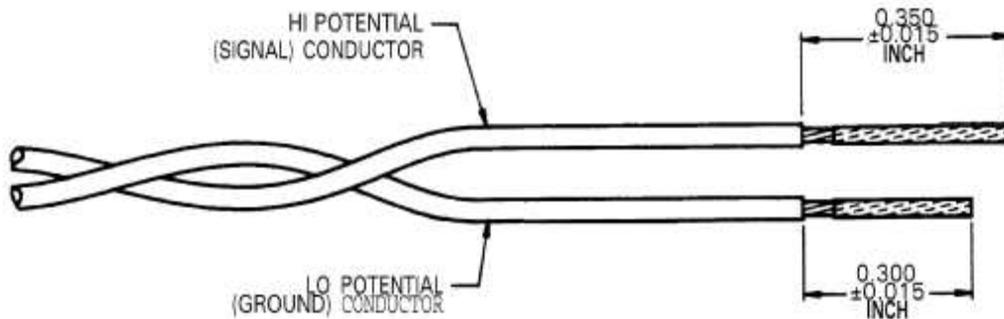

Figure 5-4. Trimming Dimensions for Twisted Pair Cables
5. Trim the cable conductors as shown in Figure 5-4